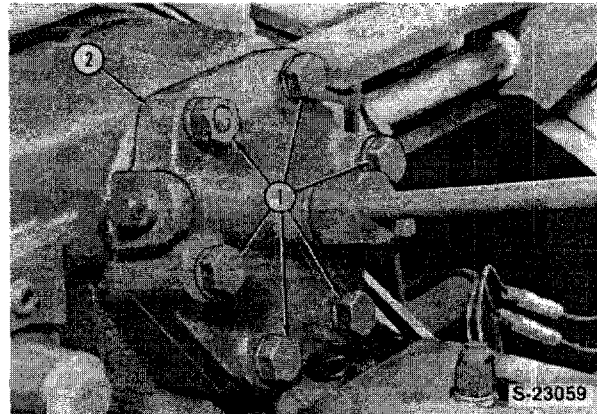

Figure 38
Reference — Figures 38 and 39
1. Remove the flow control valve — cylinder head assembly retaining bolts (1), and remove the valve from the lift cover, Figure 38.